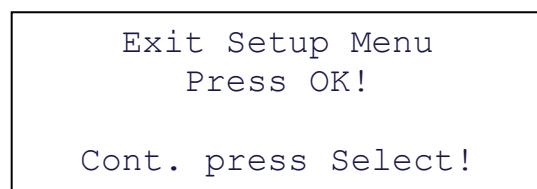

Fig. 4: Notice at the Display
10. Press the SELECT key several times until the display will show the message „exit setup menu, press OK“ (see Fig. 4).